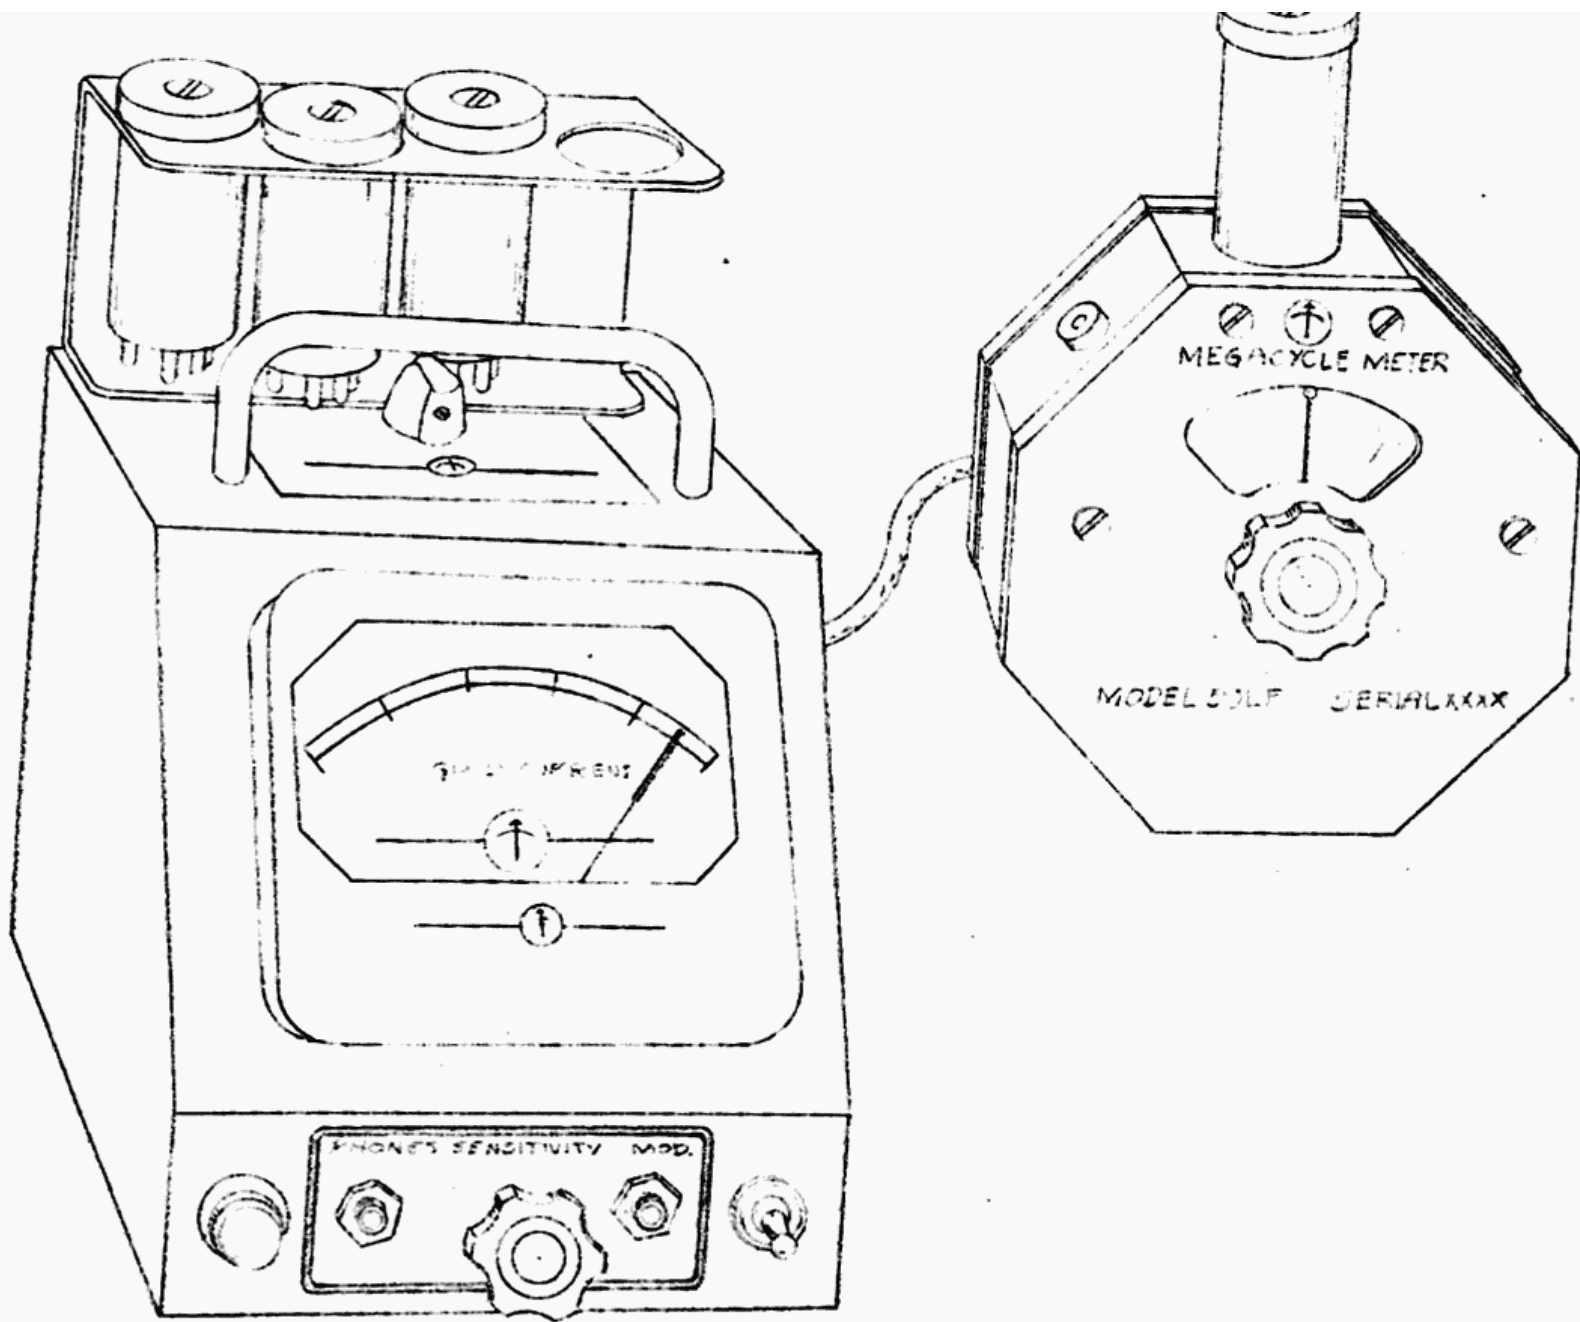

Figure 1. Model 59 LF Megacycle Meter
a. The Model 59 LF Megacycle Meter, see Figure 1, consists of a compact oscillator connected to its power supply by a small flexible cord. It covers a frequency range of 100 kilocycles to 4.5 megacycles and may be used as follows:
- (1) As a grid-dip meter.
- (2) As a variable-frequency oscillator, either modulated, or unmodulated.
- (3) As an absorption wavemeter.
- (4) As an oscillating detector, or as a tuned diode detector.
- (1) Place the packing case in a location where it can be opened easily.
- (2) Follow the instructions for slitting the carton and removing the filler as printed on the label on the carton.
b. Remove the coil set from its storage space in the rear of the power supply and clip it in place at the top rear edge of the power supply unit as shown in Figure 1. Select the coil having the desired frequency range and plug it into the oscillator unit.